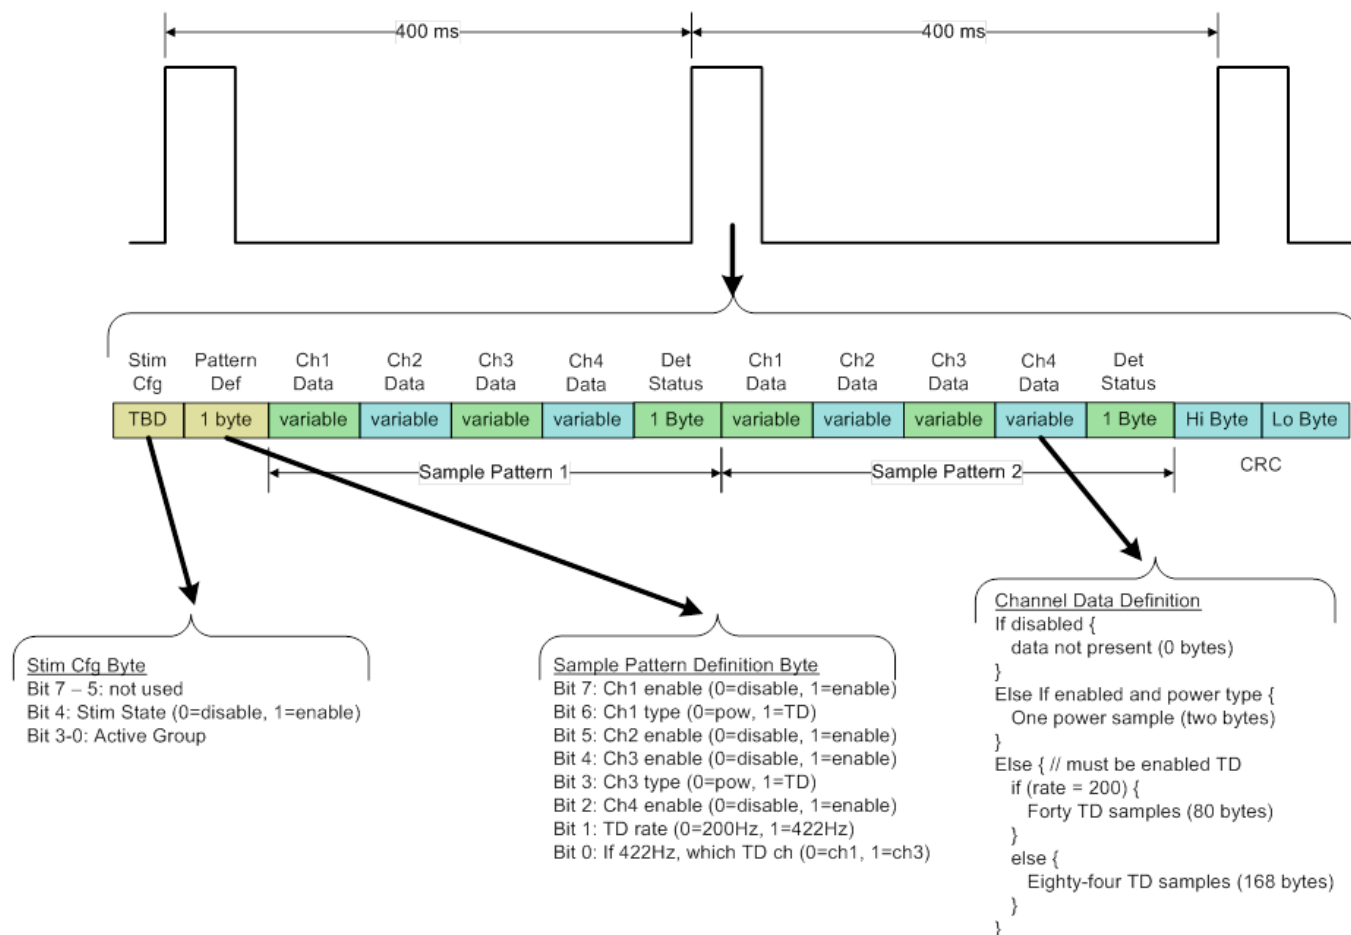

Figure 4-4 – Real-Time Data Format
The “Get Real-Time Data” command may be sent at any time during a maintenance session. The Nexus-D System will wait for the next real-time data to be retrieved from the Activa PC+S if real-time data is not ready to be sent to the host when the command is received from the host. The layout of the response for the “Get Real-Time Data” command is shown in Figure 4-4 – Real-Time Data Format.
Channel data is only present in the message payload if the channel is enabled. The sampling rate and channel type (i.e. – power or time domain) determine the number of bytes in the payload data. All channels shall be in the order specified in Figure 4-4 – Real-Time Data Format regardless of settings. There are two Activa PC+S data patterns decoded into each message payload (see Sample Patterns in Figure 4-4 – Real-Time Data Format); the actual Activa PC+S one byte sequence numbers for these patterns are in the message header “Frame ID” bytes (i.e. the first byte is pattern 1 sequence number and the second byte is pattern 2 sequence number). Note: pattern sequence numbers are sequentially incremented from 1 through 255. When 255 is used, the pattern sequence number will cycle back to 1. The pattern sequence numbers are used to detect missed packets due to timing.
- One byte data pattern definition byte (i.e. the key for decoding the remaining bytes). See Figure 4-4 – Real-Time Data Format for the Pattern Definition Byte layout.